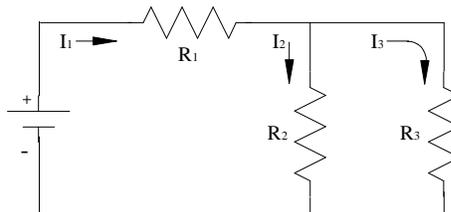

Figure 4: Resistors in Combination
20. Showing your work, calculate the theoretical resistance of the combination given in Figure 4.
21. Now set up the combination circuit as shown in Figure 4. Measure and record the current and voltage of the system. Calculate and record V/I and compare it to the theoretical value by finding the percent difference.